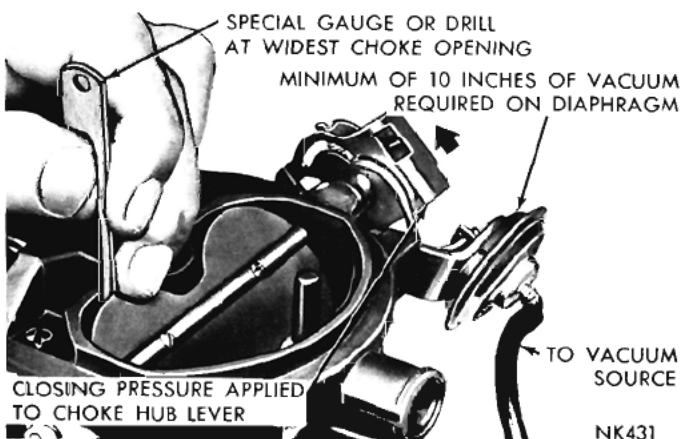

Fig. 18—Measuring the Vacuum Kick Setting
(1) With the engine **Not** running, open the throttle valves far enough to allow the choke valve to be moved to the closed position.
(2) Disconnect the vacuum hose from the diaphragm and connect the hose from the vacuum supply, as shown in (Fig. 18). (A minimum of 10 inches of mercury (HG) will be required.)
(3) Insert a NO. 17 drill or gauge T109-205 (Manual Trans.) or a NO. 35 drill (Auto. Trans.) between the
choke valve and the wall of the air horn. Refer to (Fig. 18). Apply sufficient closing pressure on the choke shaft lever to provide the smallest opening possible, without distortion of the diaphragm link. Note that the link must deflect a wire spring before it reaches the end of travel within the lever slot. The link must travel to the end of the slot for proper measurement of the kick adjustment.
(7) Install the choke operating link and recheck the choke valve opening, using a gauge or drill. Refer to (Fig. 18).